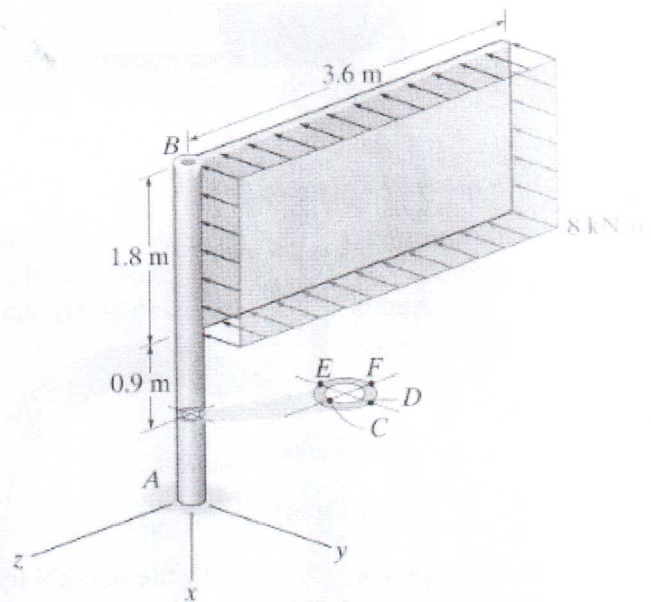

Figure 7.
- (7) The uniform sign, shown in Figure 7, has a weight of 7.5 kN and is supported by the pipe *AB*, which has an inner radius of 68 mm and outer radius of 75 mm. If the face of the sign is subjected to a uniform wind pressure of  $P = 8 \text{ kN/m}^2$ , determine the state of stress at points *C*, *D*, *E* and *F*. Neglect the thickness of the sign and assume that it is supported along the outside edge of the pipe.